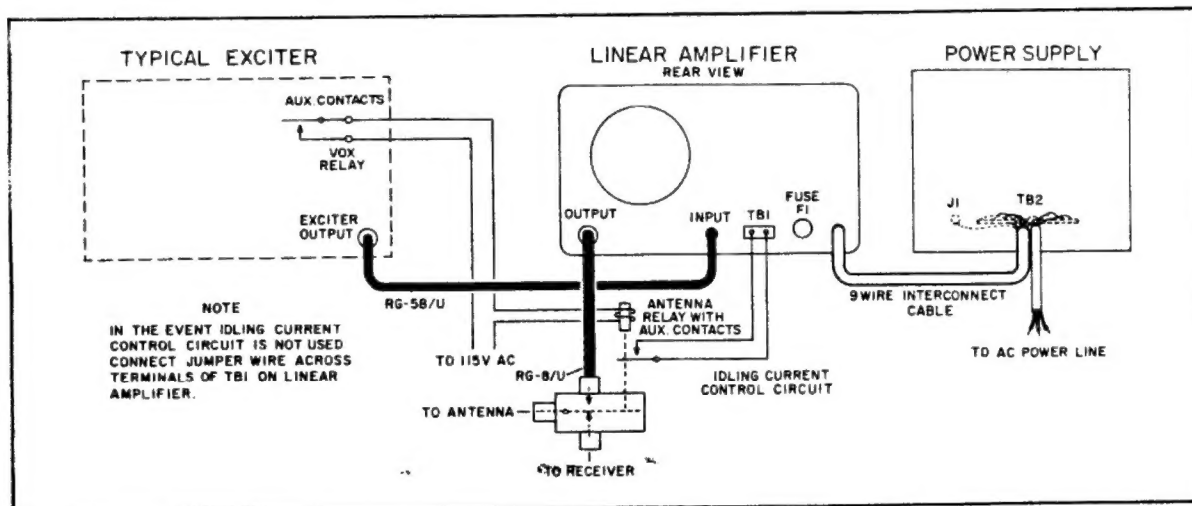

Figure 3. Suggested System Cabling Diagram, Linear Amplifier, Exciter, and Power Supply.
a. RF Input. The input connection for the RF driving signal is located at the rear of the cabinet. A chassis-mounted, female, phono-type connector is provided for the input connection. The mating connector is supplied with the equipment and is used by connecting to a short length of RG-58/U coaxial cable terminated in a connector mating with the exciter output connector. Refer to figure 3 for location of the RF input connector and cabling diagram.
b. RF Output. The output connection for the RF output signal is located at the rear of the cabinet. The output connector is a chassis mounted, UHF Type coaxial connector (SO-239) and mates with a UHF Type coaxial connector (PL-259). The power output developed requires the use of RG-8/U coaxial antenna feed line. The linear amplifier performs best when the load impedance is as near to 50 ohms as is practical. A load impedance of 50 ohms reduces VSWR (voltage standing wave ratio) on the transmission line. Refer to figure 3 for location of the output connector and interconnecting data.
A high-grade, coaxial-type antenna change-over relay is recommended for use in the installation of the linear amplifier. When selecting the antenna changeover relay, a relay with auxiliary contacts should be used if the idling current control provision is to be utilized. The antenna relay is normally operated by contacts of the VOX (voice operated) relay in the exciter unit. Figure 3 illustrates a typical interconnection of the antenna relay and the wiring to auxiliary contacts to provide idling current control.
The type 3-400Z tube, a zero-bias triode with operating voltages up to 3,000 volts DC, does not require the application of bias voltage, either for normal operation or in the standby condition. However, in the standby condition with no driving signal applied, the presence of plate voltage and the heated filament permits an idling current to flow through the tube. The amount of idling current flowing in the standby condition is controlled by the resistance of the ground-return circuit of the filament. Therefore, the amount of idling bias can be reduced by insertion of a resistance in the ground-return circuit during standby. The resistance, which is inserted during standby, must be removed during the transmit condition. The two-connector terminal board (TB1) at the rear of the cabinet serves this purpose, see figure 3. The two leads terminated at TB1 provide a low resistance path and effectively remove the resistor from the circuit when auxiliary contacts of the antenna relay close in the transmit condition or when a permanent jumper is placed across the two terminals. Idling current during standby, when the two terminals are jumpered together, is approximately 120 milliamperes compared with 40 milliamperes when the jumper is removed.
If the idling current control circuit is not used, a jumper must be installed permanently across the two terminals. If the user elects to utilize the idling current control circuit, connection to the auxiliary contacts of an antenna change-over relay and the terminal strip should be made as shown in figure 3. The two leads must be connected to the auxiliary relay contacts in such a manner that when the antenna changeover relay is de-energized (standby condition), contacts are open, placing the resistor in the ground return circuit; when the antenna changeover relay is energized (transmit condition), contacts close to short the resistor out.